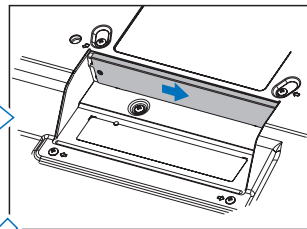
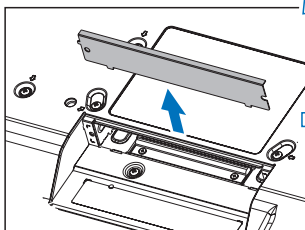

Figure 2
Figure 3
3. Remove the attached slot cover by unscrewing the installed screws (Figure 1), sliding to right (Figure 2) and moving up (Figure 3).